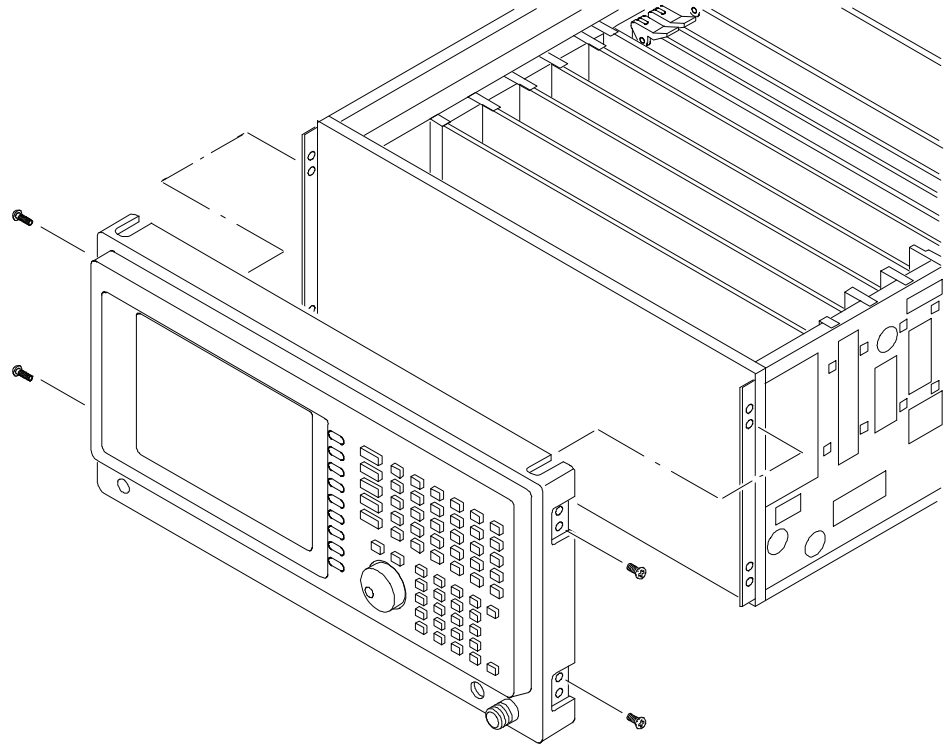

Figure 5-28: Front panel assembly removal
3. *Remove the front panel assembly:* See Figure 5-28.